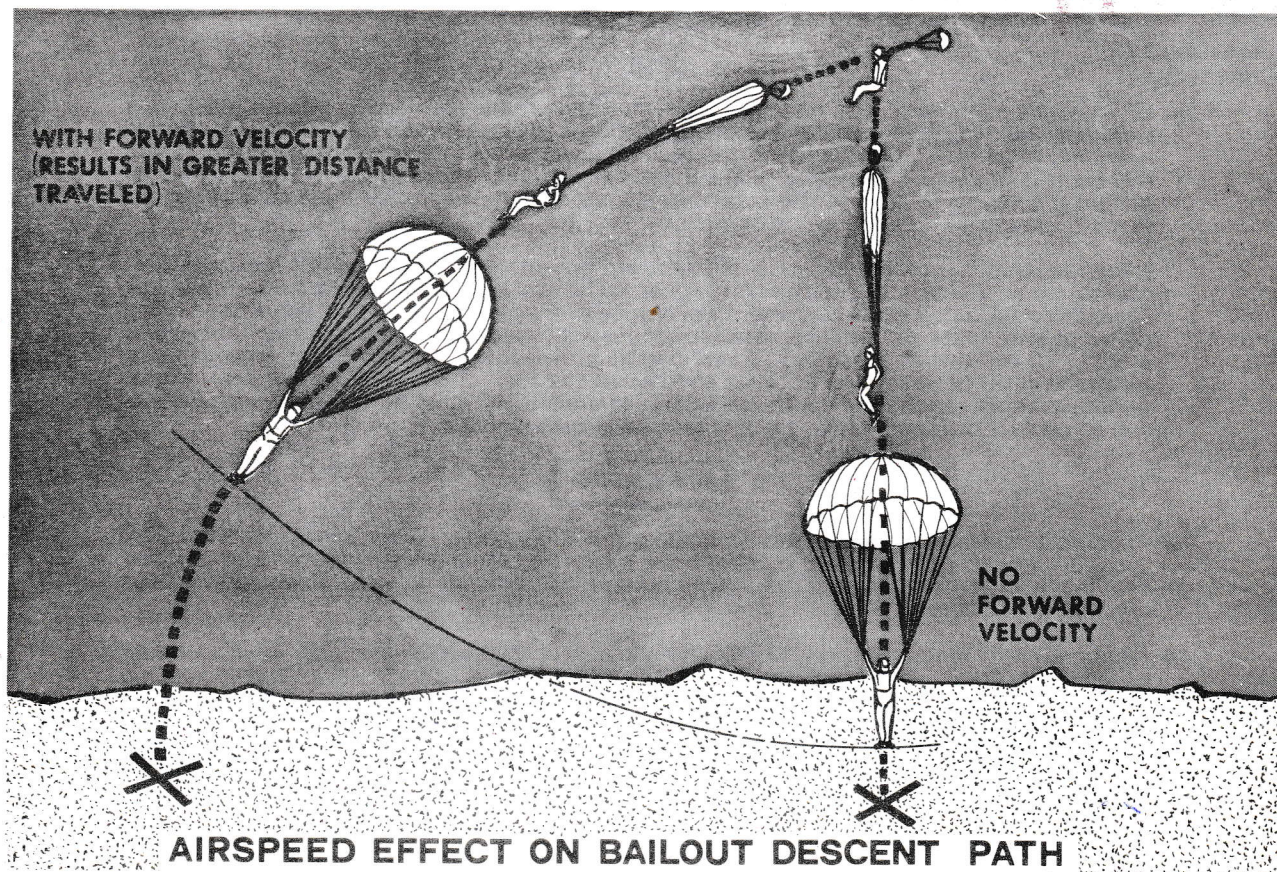

Figure 3-3
Airspeed affects the minimum bailout altitude. From the standpoint of deployment of the parachute, extremely slow airspeed is not desirable at low altitudes. Increasing airspeed can decrease the minimum altitude from which safe bailout may be expected. A parachute canopy inflates in a given distance, regardless of the speed or altitude at which it is deployed. See figure 3-3. The trajectory of a falling body is a curve when it has an initial component of velocity in the horizontal direction. Thus, the actual distance traveled through the air is greater than the vertical distance dropped. Applying this effect to a parachute, a canopy with an initial horizontal velocity will inflate in a shorter vertical distance than one without. Therefore, it can be expected that as airspeed increases, the minimum safe altitude for bailout becomes lower. A practical limit for this effect occurs when parachute opening shock becomes intolerable, or tumbling is severe enough to hinder rapid pulling of the ripcord. At very low altitudes, it is therefore, generally more desirable to bail out at a high airspeed (within airplane placard speed) than a low airspeed. However, airspeed should not be sought at the expense of altitude. If the airplane is controllable, at high speed and low altitude, it is usually better to trade airspeed for altitude. Although a successful bailout may be possible from as low as 400 or 500 feet, the chances for survival are best when above 2000 feet.
Bailout at high altitudes introduces the problems of lack of oxygen, low temperatures, and high parachute opening shock. To minimize these problems, it is necessary to free fall to lower altitudes. Descent time and opening shock can be determined from figure 3-3. The parachute is equipped with an auto-
- If passengers are aboard it may be necessary to open the aft emergency exit hatch to permit a faster bailout. See WARNING, figure 3-3. If the emergency is such that the boom operator and extra crew members cannot reach the control cabin, it will be necessary to open the aft emergency exit hatch to bailout. It is possible to open the aft emergency exit hatch safely at speeds